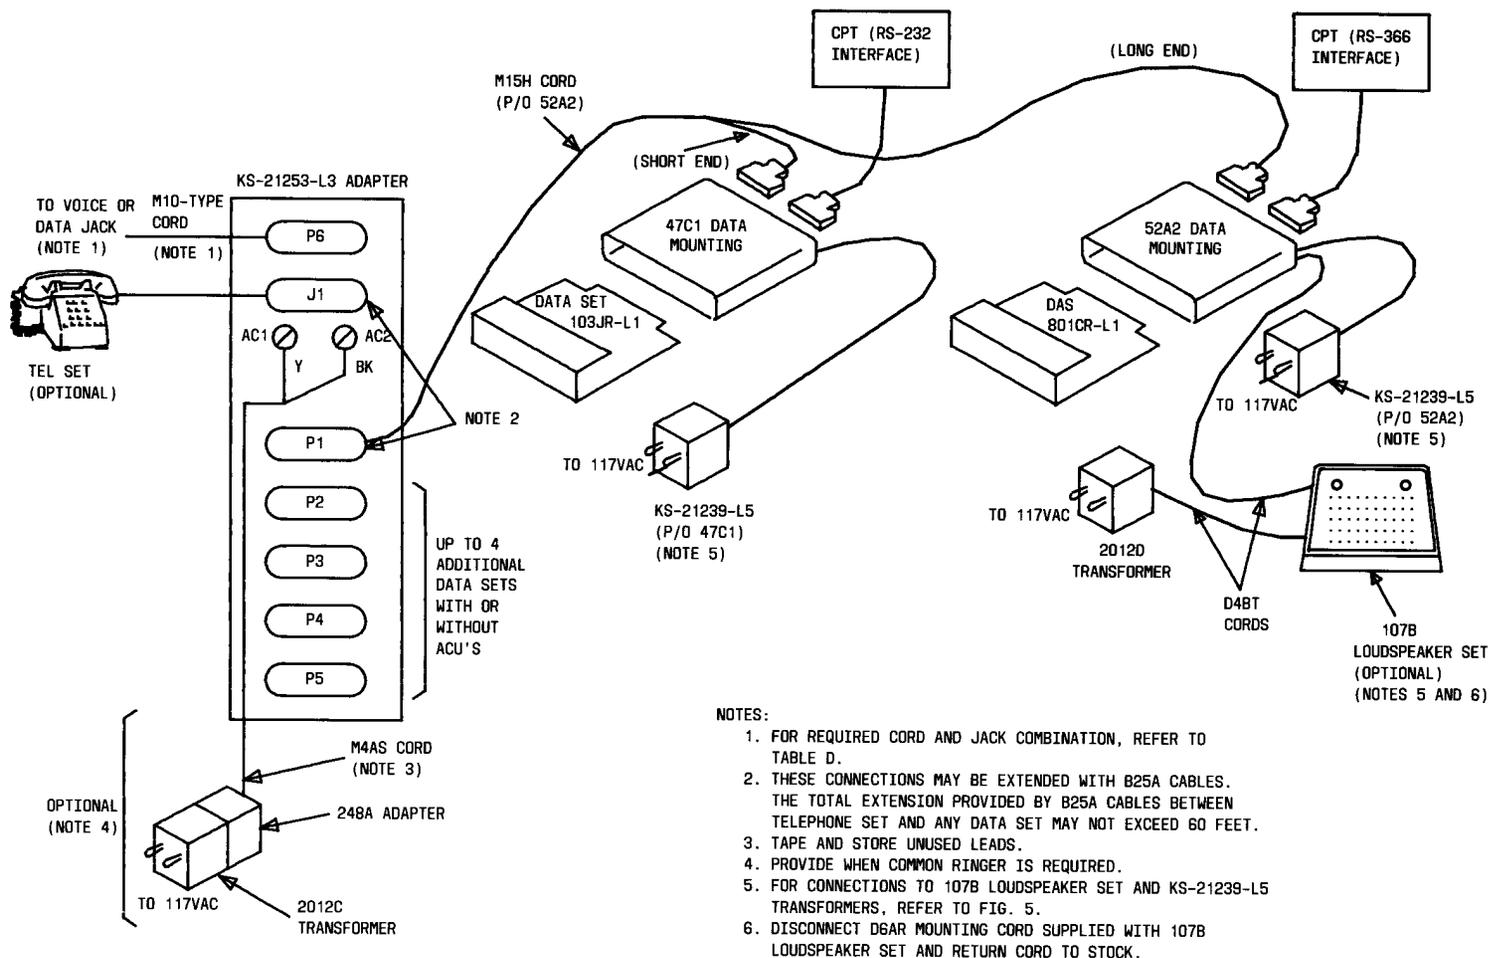

Fig. 13—One to Five Data Sets With Optional Shared Telephone Set and With or Without DAS 801CR-L1/2 ACUs—Connection Diagram
**6.09 One to Five Data Sets With Optional Shared Telephone Set and With or Without DAS 801CR-L1/2 ACUs:** DS 103JR-L1/2 and a DAS 801CR-L1/2 ACU can share a telephone set with up to four other data sets with or without ACUs. The connections should be in accordance with Fig. 13.
B25A Cables, as needed, length as shown in Fig. 13